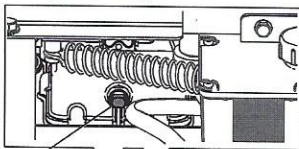

Figure 14
- Using a wrench, turn the bypass valve on the left and right transaxles so that the flat sides of the valve face left and right (Tow position) as shown in Figure 14 and Figure 15.